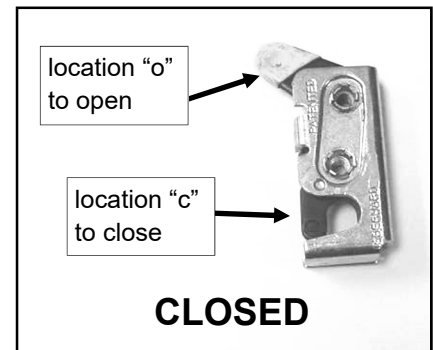

Fig. 4.4 (latch shown closed)
4.4 Tip: removal of any component that has latches can be made easier for a single person if the latch is opened to disengage the receiving pin then manually closed as shown in fig. 4.4 so the weight of the component does not cause the latch to continually re-engage on the receiver pin when you try to work the opposite side of the vehicle by yourself. Push at location “c” to close and pull at location “o” to open. Be sure to open latches before re-installing.